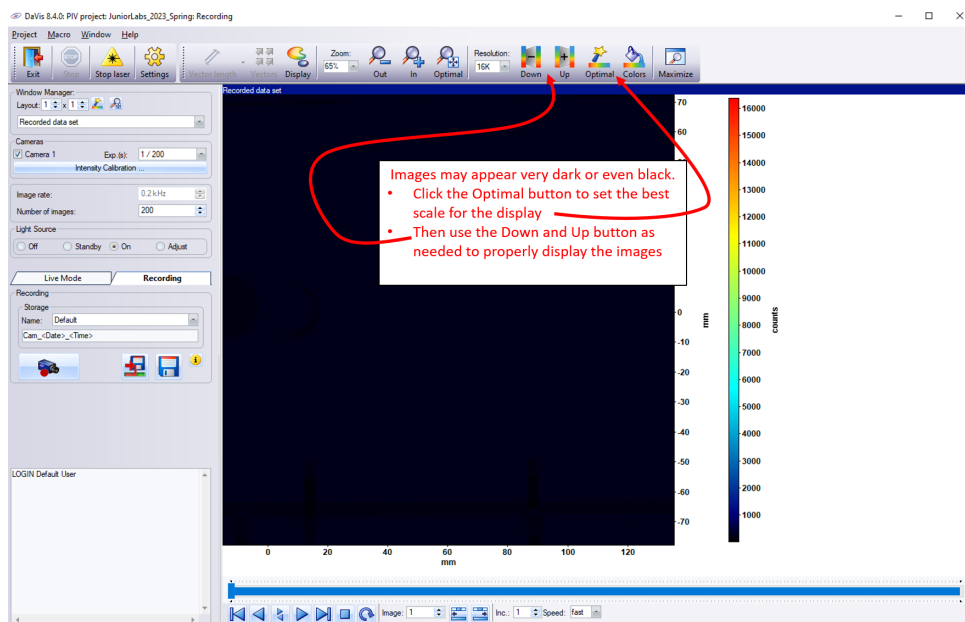

Figure 8: Initial image display and display controls.
- To check the raw images you just acquired, click on the “Optimal” button (top toolbar), see Figure 8. Feel free to change the colormap by using the “Colors” button. Usually colormaps 1 and 2 are good choices for looking at the images. Adjust the range of the colorbar under the “Resolution” drop down menu. The option “0-max” will make the colormap span from zero to max value of the displayed data. The option “+-max” will make the colormap span from min to max value of the displayed data. See which fits better to the displayed maps or images.